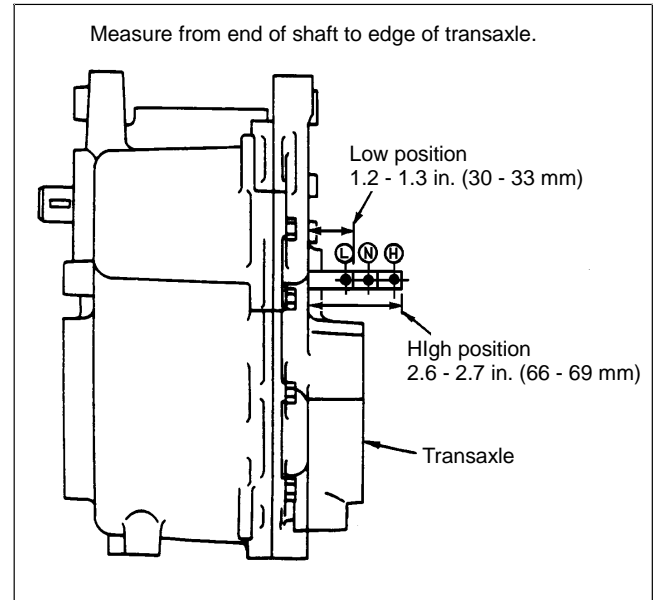
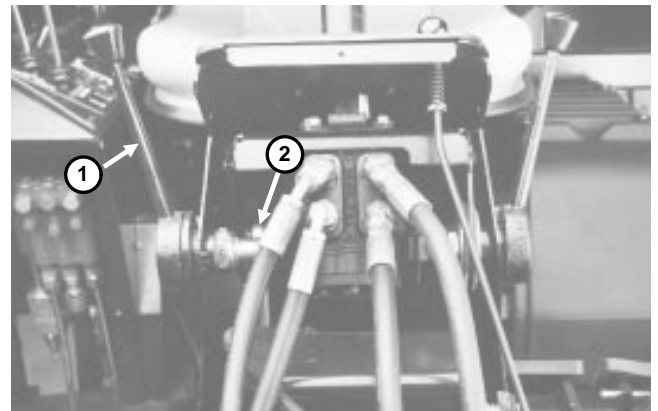

Figure 7
Figure 8
2. Move axle shift lever forward to transport (high speed) position. Measure shaft dimension from side of transaxle case to end of shaft (Fig. 7). Adjust upper linkage length at top eye rod if necessary to get proper dimension (Fig. 8).